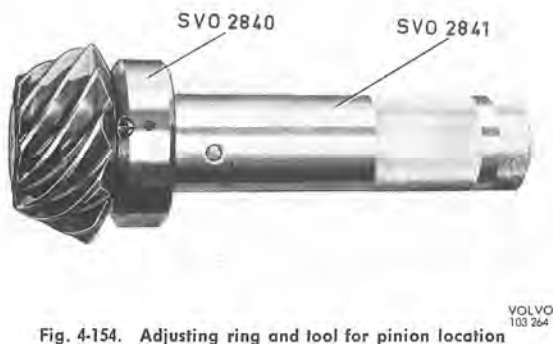
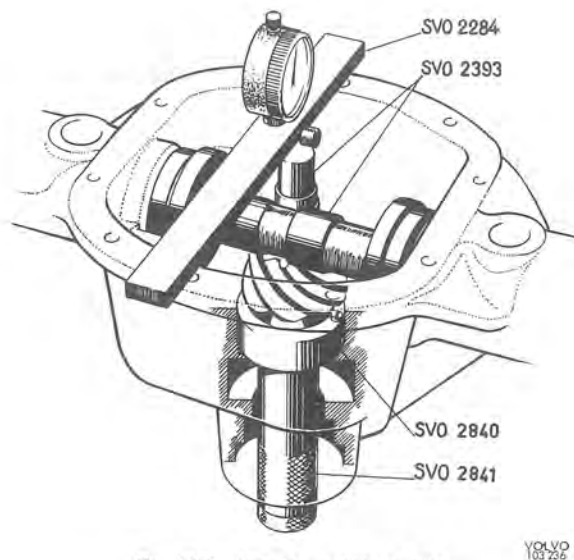
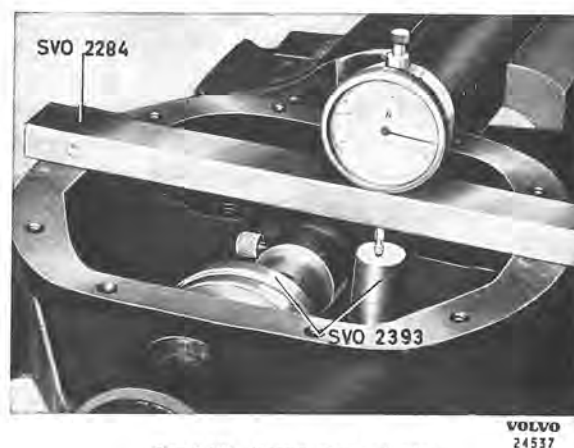

Fig. 4-154. Adjusting ring and tool for pinion location
Fig. 4-156. Locating measuring tools
Fig. 4-157. Zero-setting indicator
1. Clean the marking surface on the pinion with extremely fine emery cloth. Fit the adjusting ring 2840 and tool 2841 on the pinion, see Fig. 4-154. Place the pinion in the carrier, see Fig. 4-156, and secure the adjusting ring by screwing in the lock screw.
Place the pinion gauge on the ground surface of the pinion and the adjusting jig in the differential bearing positions as shown in Fig. 4-156. Place the see Fig. 4-157. Then move the indicator retainer gauge, see Fig. 4-158. If, for example, marked 33, the pinion gauge should lie 0.33 mm (0.013") under the adjuster fixture. The setting is adjusted by turning the cam on the pinion until the gauge dial shows the correct value. Then lock the adjusting ring with the lock screw. Remove the measuring tool and pinion.